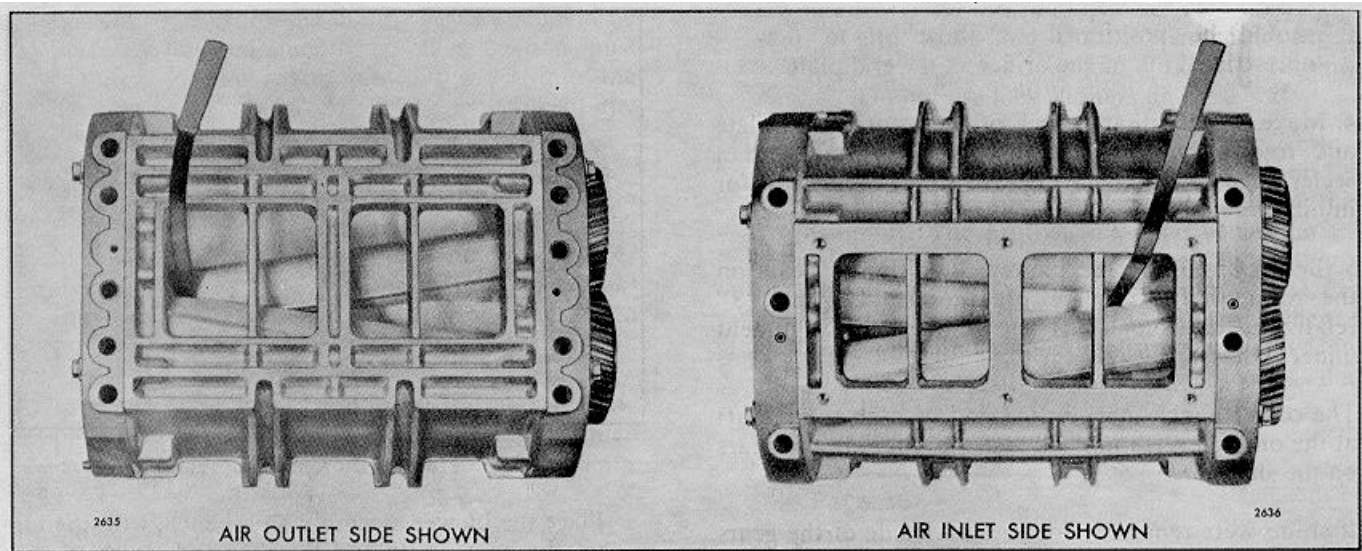

FIG. 23. Measuring "CC" and "CC" Clearance Between Blower Rotor Lobes
4. The clearance between the rotor lobes may be checked with 1/2" wide feeler gages in the manner shown in Fig. 23. When measuring clearances of more than .005", laminated feeler gages that are made up of .002", .003" or .005" feeler stock are more practical and suitable than a single feeler gage. A specially designed feeler gage set J 1698-02 for the blower clearance operation is available. Clearances should be measured from both the inlet and outlet sides of the blower.
5. Refer to Figs. 23 and 24 and time the rotors to the specified clearance between the *trailing* edge of the right-hand helix rotor and the *leading* edge of the left-hand helix rotor ("C" clearance) measured from both the inlet and outlet sides. Then check the clearance